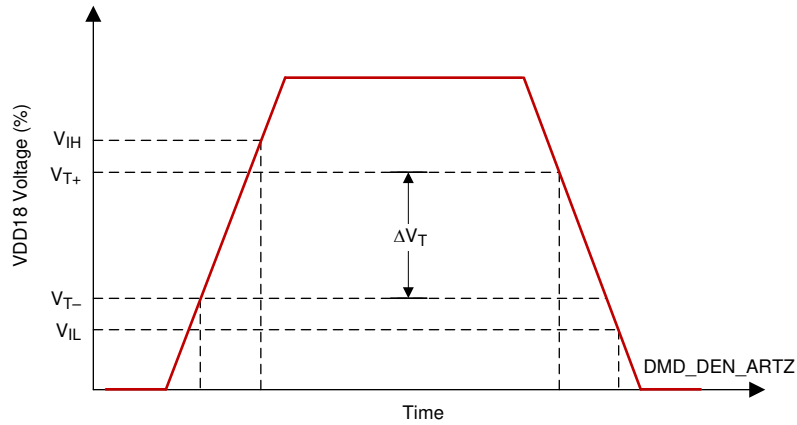

图 6-9. LVCMOS Input Hysteresis
(1) See Figure 6-9 and Figure 6-10 LVC MOS Rise, Fall Time SLeW Rate Figures. Specification is for DMD_DEN_ARSTZ pin (LVC MOS).